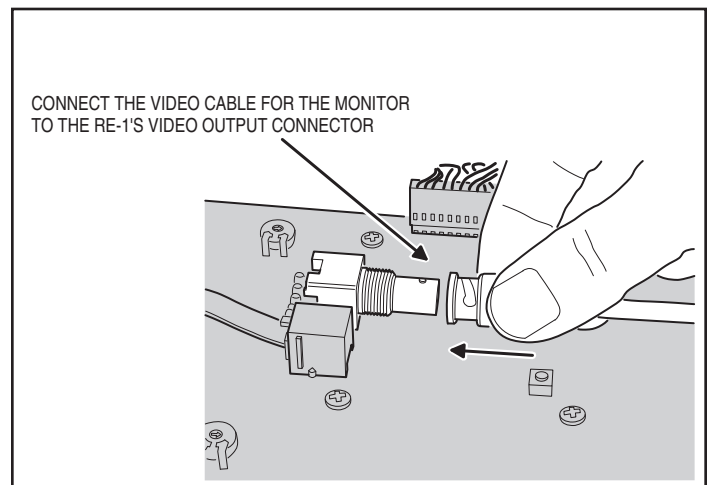

Figure 27. Connecting the Video Cable
6. Connect the video cable to the RE-1 **VIDEO** connector (see Figure 27).